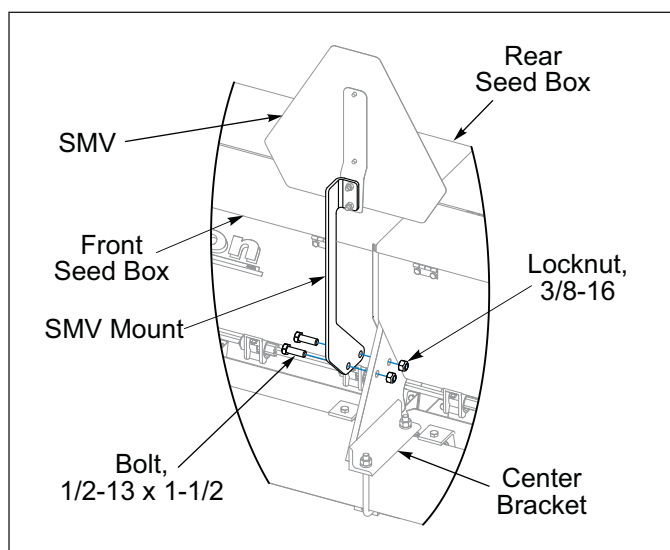

Figure 2-1: SMV Mount
2. Center 3-PT Hitch Assembly in relationship with the Seed Box Center Bracket. Attach 3-PT Hitch to Seeder Frame Tube with 5/8-11 U-Bolts, Lock Washers and Nuts. **See Figure 2-1.**
4. 8FT and 10FT Seeders, install SMV Mount to Seed Box Center Bracket with 1/2-13 x 1-1/2 Bolts and Locknuts. **See Figure 2-1.**